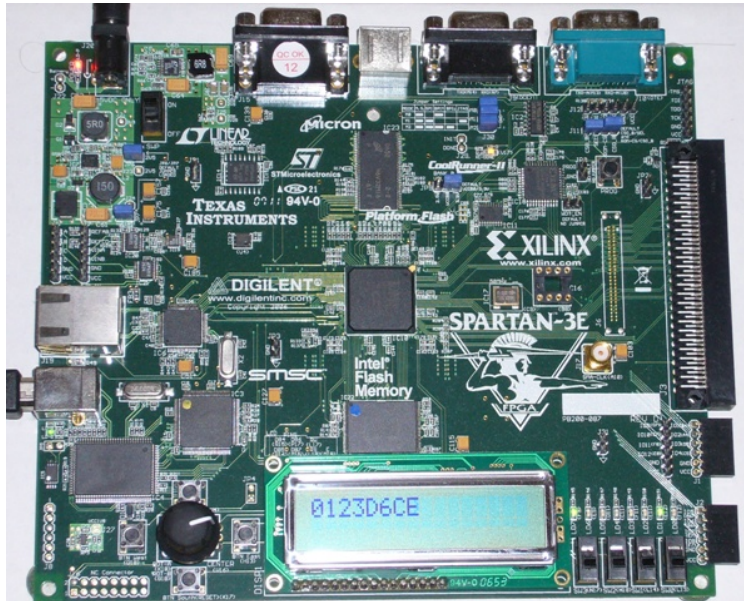

Figure 11: Spartan-3E Development Board
7. For the later labs, we will be programming more complicated digital circuits into the FPGA board shown in Figure 11. Field Programmable Gate Arrays (FPGAs) provide a tremendous amount of reprogrammable logic within a single IC package. The development board allows us to evaluate the